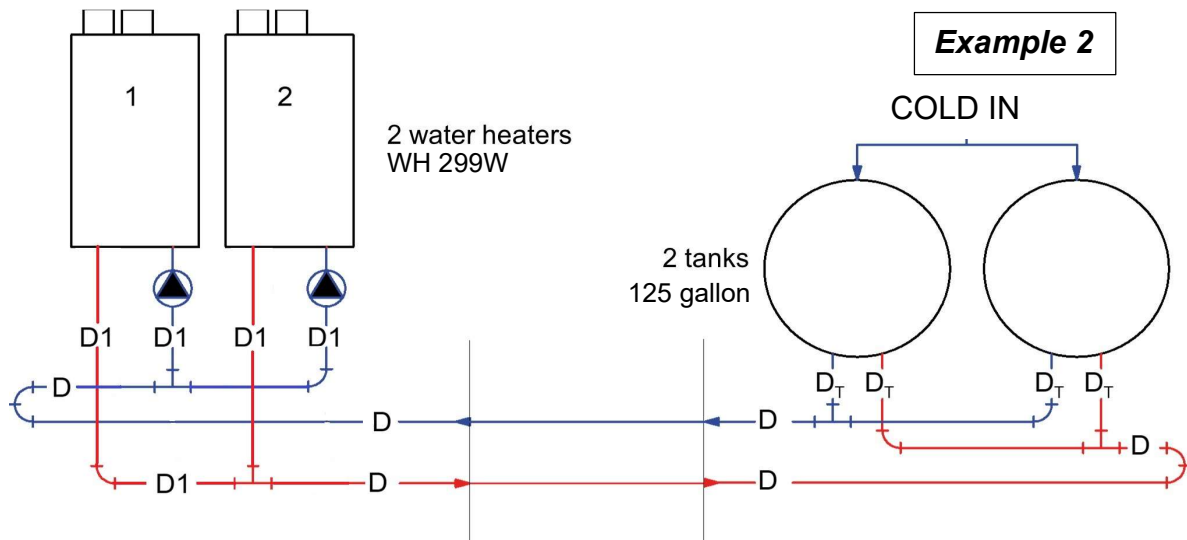

Figure 9.7
**Water heater connections, figure 9.7**